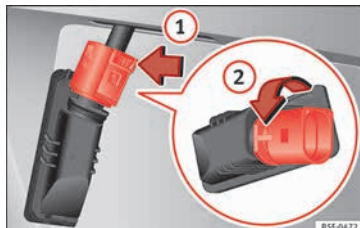

Fig. 122 Number plate light: Remove the bulb holder.
3. In the connector lock, turn » **Fig. 122** towards the arrow **1** and pull the connector.